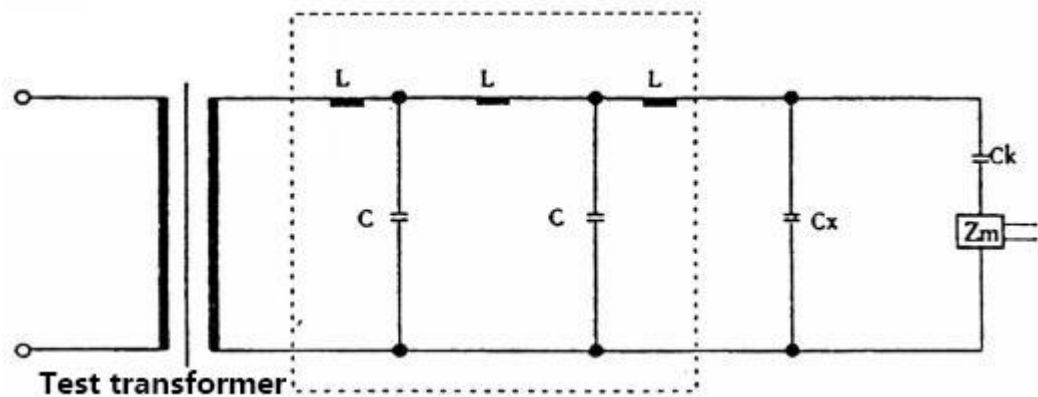

Fig. 21 High voltage filter connected to test circuit
(4) High voltage filter is used. Adding a high-voltage filter to the high-voltage side of the secondary of the test transformer can further suppress the interference of the power grid system and improve the detection sensitivity. As shown in Fig. 21, the two-stage T-shaped filter can attenuate the 30kHz signal by 60dB if $L = 0.5\text{h}$ and $C = 0.004\text{f}$. Of course, the high voltage filter must also have no discharge under the test voltage. Domestic units have used the tuned frequency selective filter in series in the high voltage lead, and the effect is also very good.